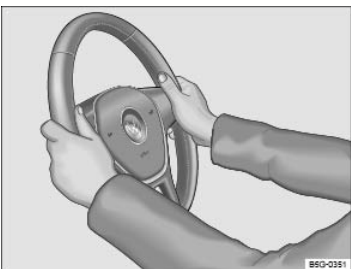

Fig. 50 Steering wheel: 9 o'clock and 3 o'clock positions.
- Adjust the steering wheel so that it can be held with hands at the 9 o'clock and 3 o'clock positions on the outside of the steering wheel rim and with the arms slightly bent at the elbow ⇒ *Fig. 50*.
- Always hold the steering wheel on the outside of the steering wheel rim with your hands at the 9 o'clock and 3 o'clock positions ⇒ Fig. 50 to help reduce the risk of serious personal injury if the driver's airbag inflates.